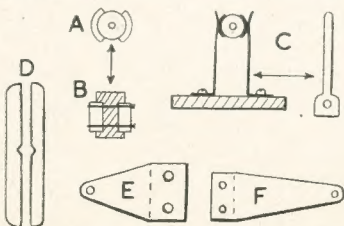

Fig. 3—Armature, commutator, etc.
A length of steel knitting-needle is, perhaps, best for the axle. To avoid drilling, the armature can be made up from two pieces of iron, as shown at (D), Fig. 3. Small grooves are filed across the inner faces of these pieces so when the axle is placed in these grooves and the two pieces bound with thread, the whole is secure. If desired, solder may be added.
The commutator consists of an insulated centre piece with two small segments of metal, and is shown at (A) and (B) in Fig. 3. Wood, ebonite tubing, or glued tape can be used for the centre. The segments can be bent from a little brass or tin, or a small piece of copper or brass tubing can be sawn in two. The segments are held in place by